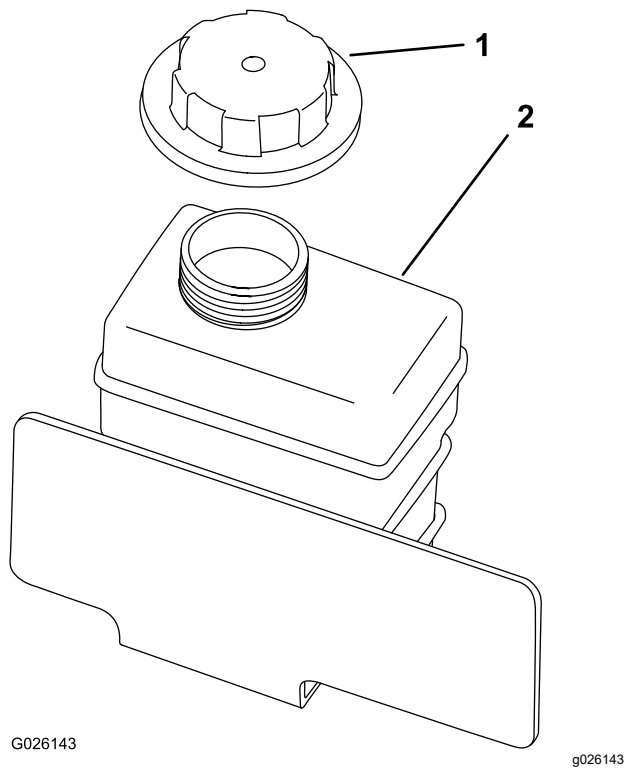

Figure 55
8. Slowly fill the coolant-reserve tank until level reaches the bottom of the filler neck (Figure 55).
9. Install the reserve-tank cap (Figure 55).